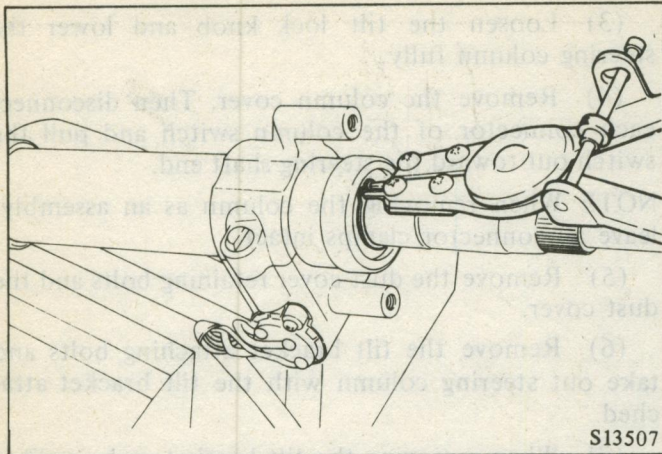

Fig. 8 Removing the Snap Ring
(1) Remove the snap ring with snap ring pliers. (Fig. 8)